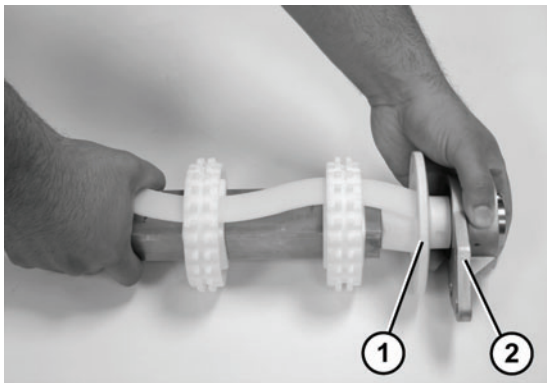

Figure 71
4. Attach the flanged pucks (**Figure 71, item 1**) and the 3 hole flange with bearing (**Figure 71, item 2**) to the drive spindle.